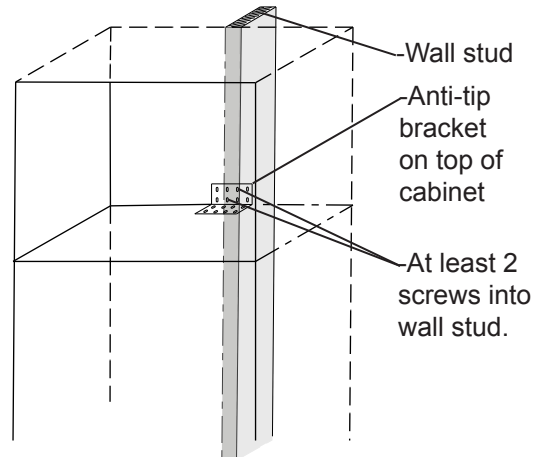

Figure 10
Locate a wall stud behind the unit that is suitable for securing the 5" anti-tip bracket to the wall. The position of the bracket should be to the right of the power module and not behind the power module. Do not disturb the power module gasket on the left side of the unit. Place the anti tip bracket on top of the cabinet flush with the back of the cabinet. Mark and drill at least three holes (1/8" (3.2mm) into the top of the cabinet and secure the bracket to the top of the cabinet with at least (3) of the #8 x 5/8" screws provided. Secure the bracket to the wall stud with at least (2) #8 x 1½" screws provided. See Figure 10.